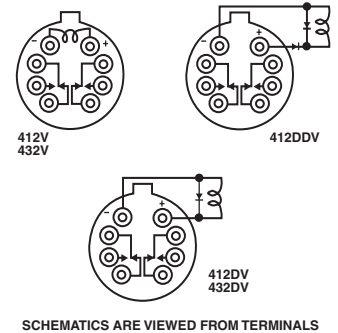

**FIGURE 2**
Contact Load Ratings (DC) (See Fig. 2 for other DC resistive voltage/current ratings)	Resistive: 1 Amp/28Vdc Inductive: 200 mA/28Vdc (320 mH) Lamp: 100 mA/28Vdc Low Level: 10 to 50µA/10 to 50mV